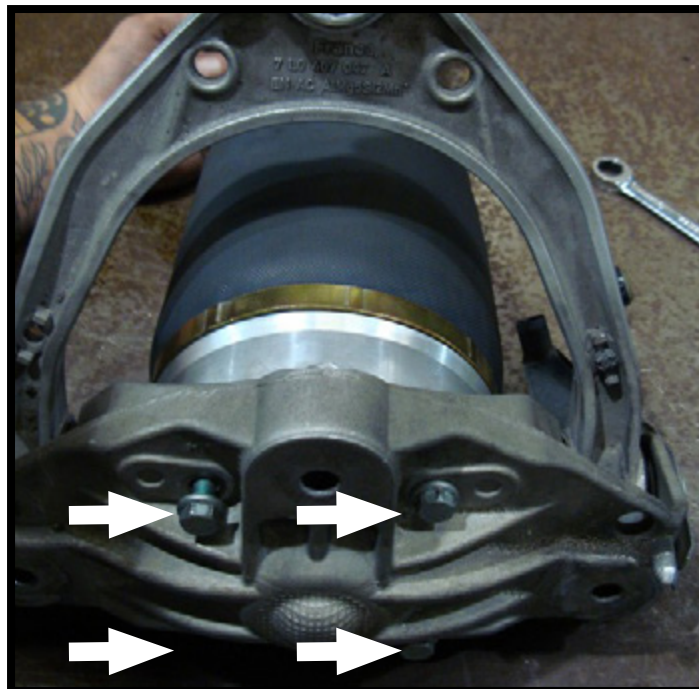

FIGURE 30-5
5. INSTALL THE NEW FOUR BOLTS SECURING THE AIR SPRING TO THE UPPER MOUNT. (FIGURE 30-5)